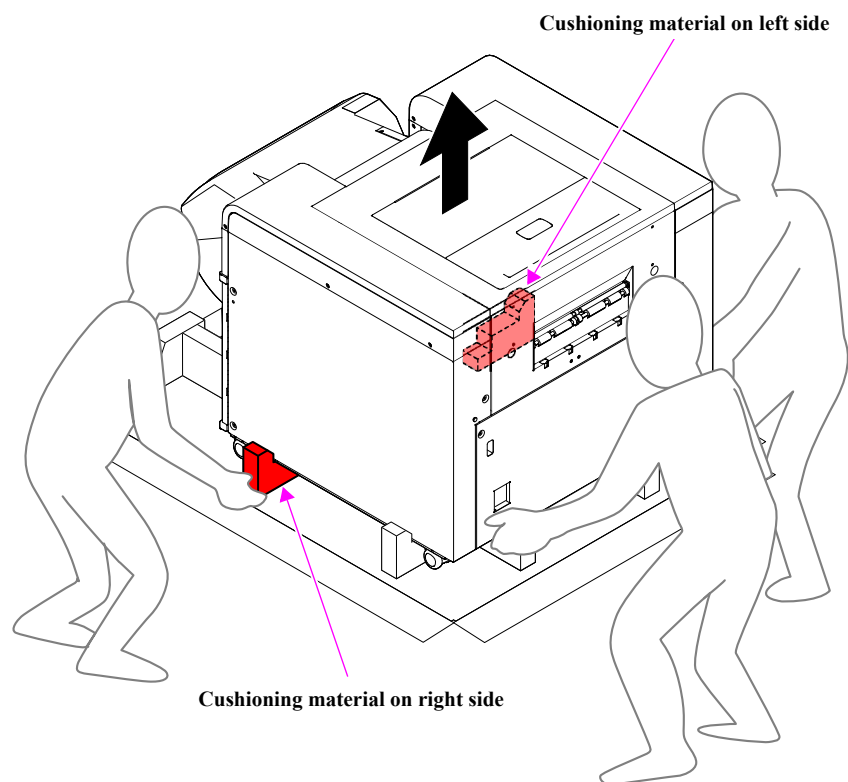

Figure 1-4. Unpacking the Main Body (4)
7. Lift the printer's right side, and pull out the cushioning material on the right side. (Figure. 1-4)